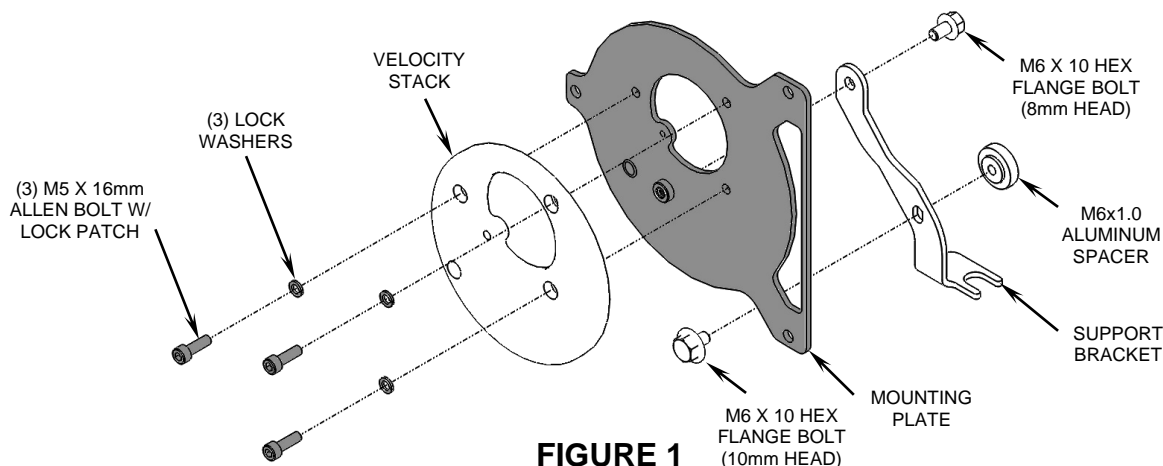
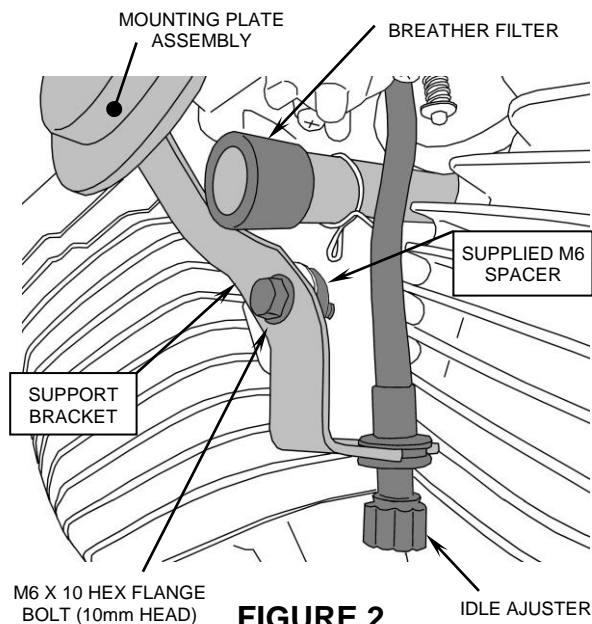

FIGURE 1
FIGURE 2
5. Use the (1) supplied M6 x 10mm hex flange bolt (with 8mm head) to attach the support bracket to the backside of the mounting plate. Snug the bolt into the threaded insert but do not tighten. See Figure 1.
6. Insert the supplied breather filter into the larger hose that was disconnected in Step 4 and secure with the stock hose clamp. See Figure 2 for position.
8. Using the (3) supplied M5 X 16mm allen bolts and lock washers, attach the velocity stack and mounting plate (with support bracket) to the carburetor in the order shown in Figure 1. Fully tighten the allen bolts.
9. Align the installed support bracket with the bracket between the cylinder heads. Insert the (1) supplied M6 x 10mm hex flange bolt (with 10mm head) through the support bracket, cylinder bracket and thread into the supplied M6 aluminum spacer. See Figure 1 and Figure 2. Make sure the small diameter boss on the aluminum spacer is fully engaged into the hole on the backside of the cylinder bracket, then tighten.
11. Attach the idle adjuster to the support bracket retaining tab. See Figure 2.